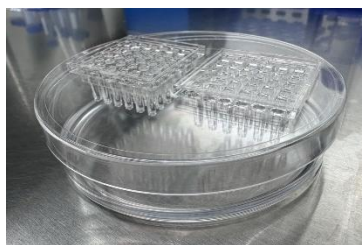

Figure 1. Hydration of the pillar plate surface in a 100 x 20 mm petri dish with 5 mL of sterile, distilled water to minimize air bubble entrapment.
8. Hydrate the surface of the pillar plate by inserting two 36PillarPlates into a 36PetriLid placed on a 100 x 20 mm petri dish containing 5 mL of sterile distilled water. Incubate the assembly in a humidified 5% CO₂ incubator at 37°C for 30 minutes prior to hydrogel loading (**Fig. 1**).
20. For minimizing water evaporation during Matrigel gelation, insert two 36PillarPlates loaded with cells in alginate-Matrigel into a 36PetriLid placed on a 100 x 20 mm petri dish containing 5 mL of sterile, distilled water (**Fig. 1**).